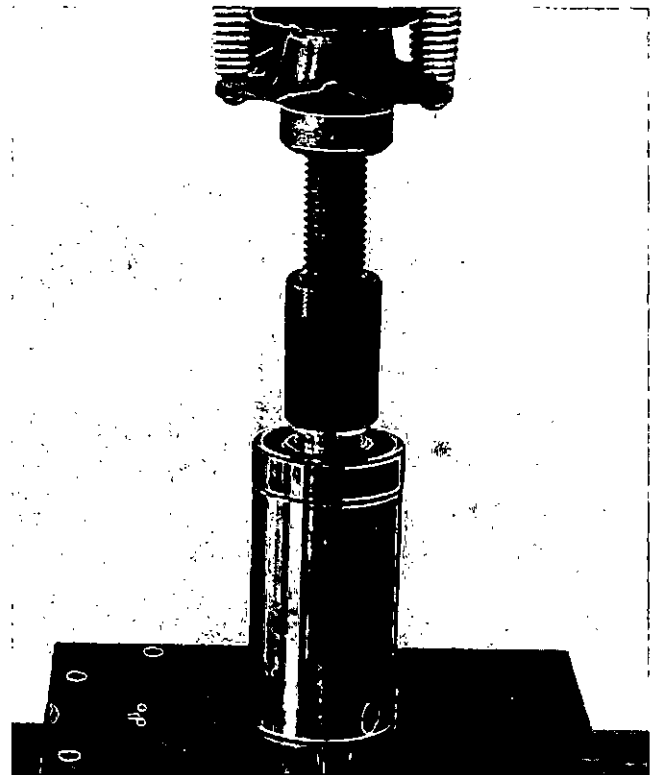

Fig. 8-44 (N10855). Install The Bearing Onto The Shaft.
1. Apply a thin coat of clean lubricating oil to the outside diameters of the idler shaft. Install a new bearing onto the shaft. Use the Part No. ST-658 Mandrel to support the bearing, Fig. 8-44.